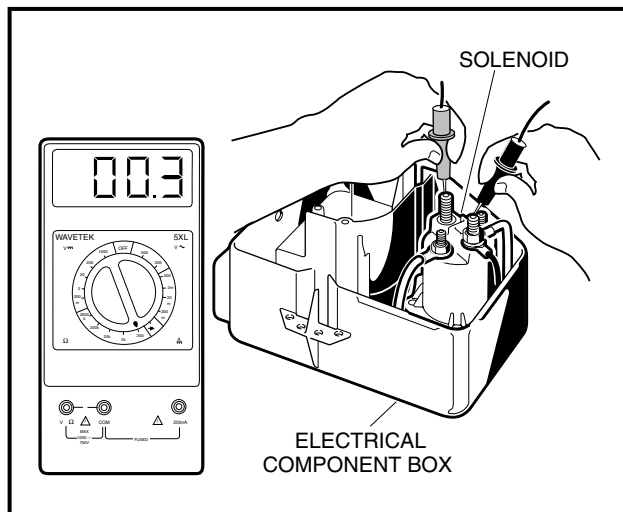

Figure 11-31 Test Solenoid Continuity
7. Set the multimeter to 200  $\Omega$  (ohms). Connect the red (+) probe to one of the large posts of the solenoid and connect the black (–) probe to the other large post (**Figure 11-31, Page 11-27**).